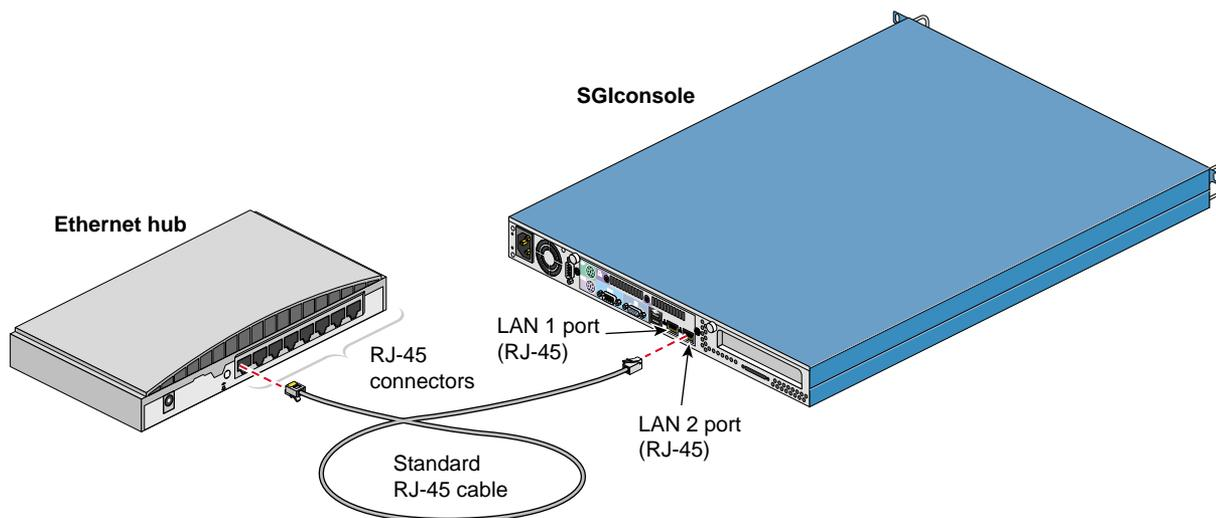

Figure 2-14 Connecting SGIconsole to the Ethernet Hub
4. Connect one end of one of the standard RJ-45 Ethernet cables to the **LAN 2** port RJ-45 jack (the rightmost RJ-45 jack) on your SGIconsole. Connect the other end of the RJ-45 cable to an RJ-45 jack on the Ethernet hub. Figure 2-14 shows the SGIconsole connected to the leftmost jack of the Ethernet hub. If you are going to use the leftmost Ethernet hub jack to connect to the SGIconsole, make sure that the Uplink button (next to the leftmost jack) is set to **Normal** (not pushed in).